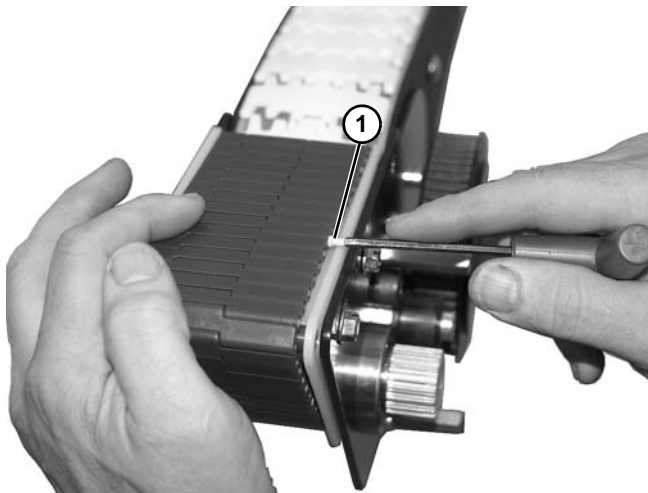

Figure 177
7. Bring ends of belt together and install pin (**Figure 177, item 1**).